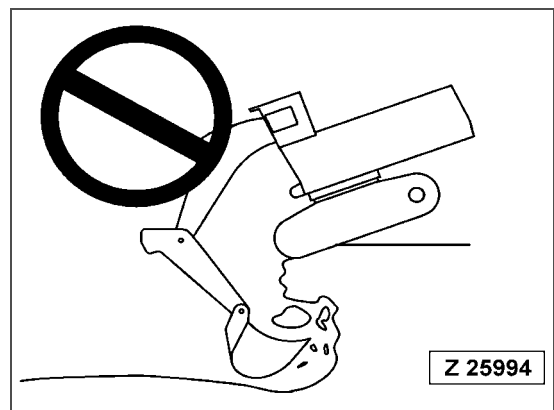

Fig. 2-31
- Do not excavate too deeply under the front of the machine. The ground under the machine may collapse and cause the machine to fall (Fig. 2-31).